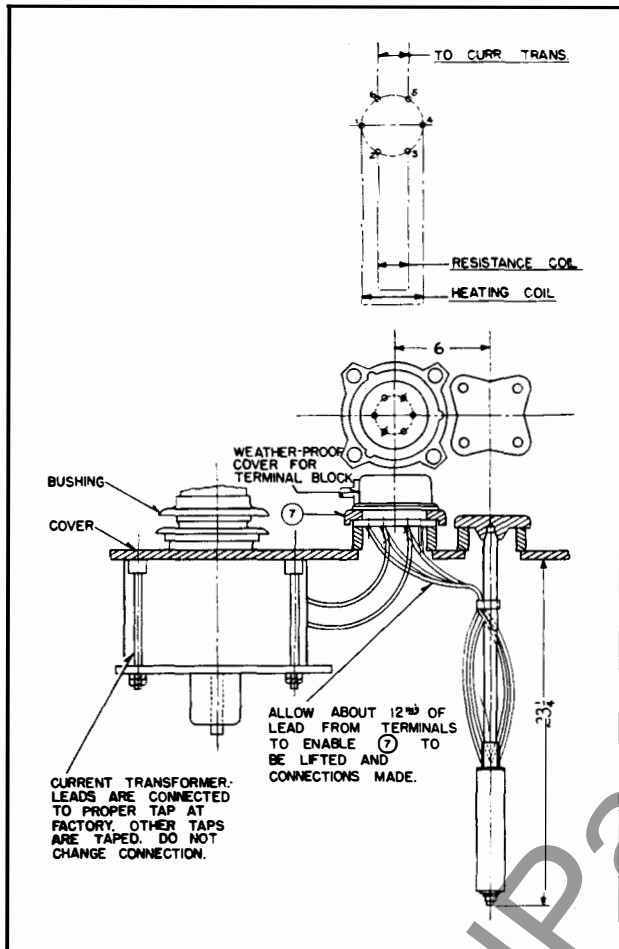

FIG. 4. Typical Installation with Bushing Current Transformer
The external terminal box will always be in place, and will be covered by a weatherproof conduit box. It may be a box as shown in Fig. 4 or a large box to take care of a number of leads including some not for the hot spot indicator. The heating coil and resistance element form an integral unit which is shipped in place whenever possible. If this cannot be done, it is shipped in a separate package marked "Details".
2. Connect the two leads from the heating coil marked 1 and 4 to the two studs marked 1 and 4 on the under side of the terminal block. See Fig. 4.